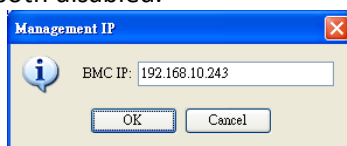

Figure 2-12 Updating the BMC IP Address
- **BMC:** Shows BMC status. If a BMC is installed, the BMC IP address will appear here. Use the Update button (Update icon) to update the BMC IP address (Figure 2-12). Click the **Refresh** button (Refresh icon) to reload the BMC IP address. If a BMC is not installed, the message “not installed” appears, and the Update and Refresh buttons are both disabled.